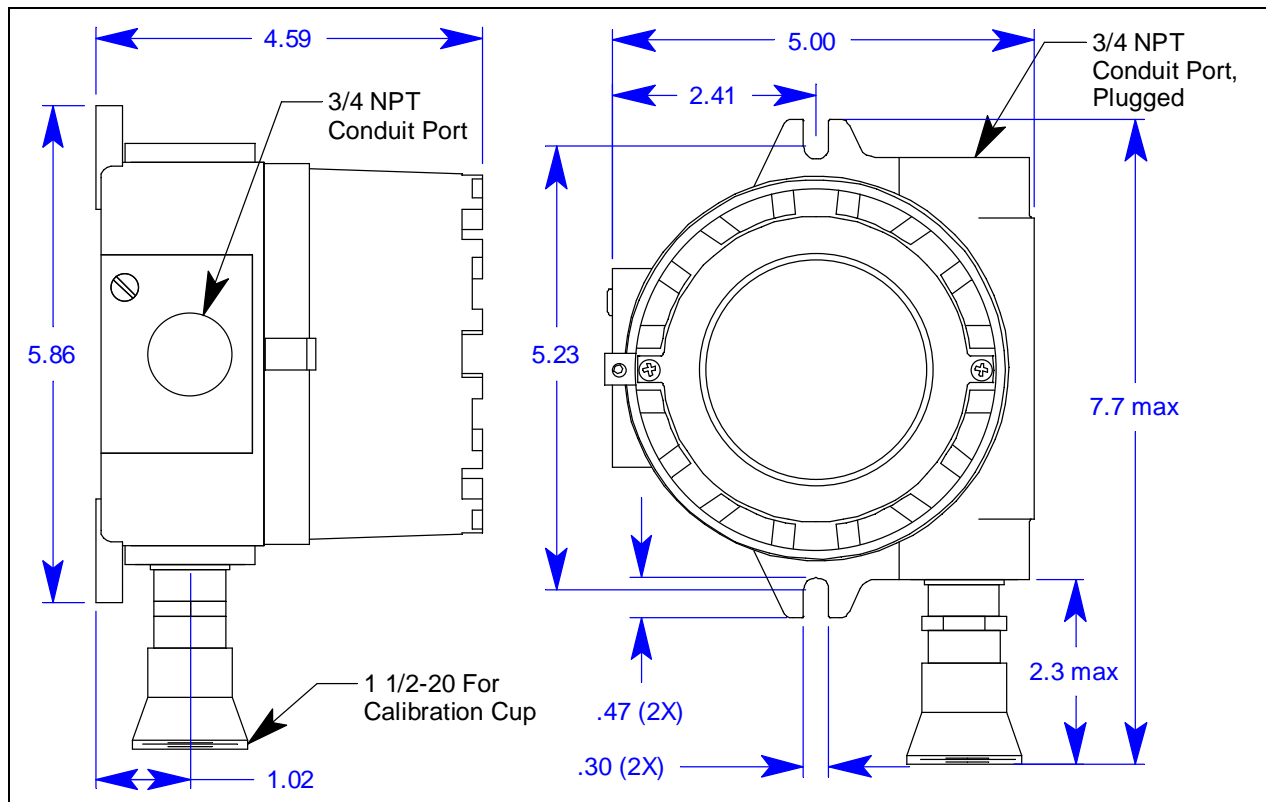
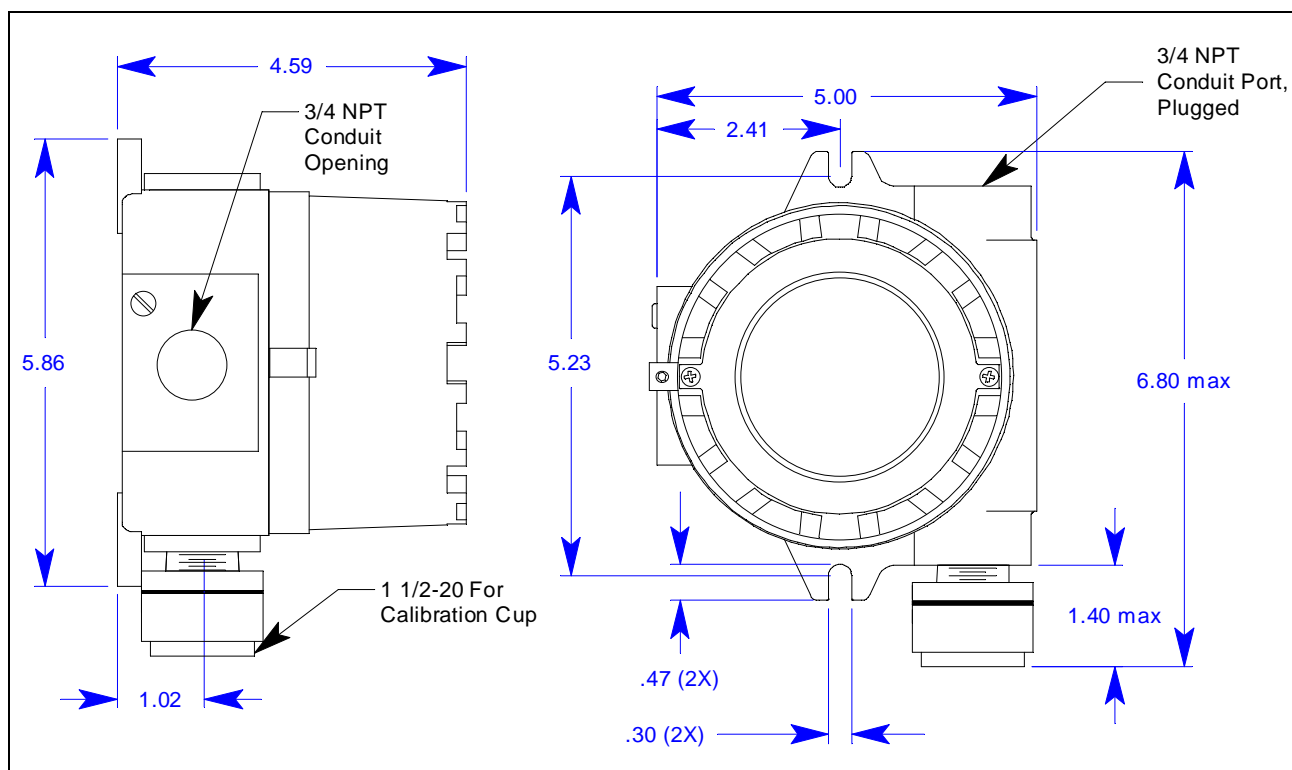

Figure 15: Outline & Mounting Dimensions, Catalytic LEL and ppm, UL Version
Figure 22: Outline & Mounting Dimensions, CT-7 Series
2. At the monitoring site, use #10 screws through the junction box's two mounting holes to secure the junction box to a vertical surface. Figure 15 - Figure 22 show the outline and mounting dimensions for each version of the M2A. Mount the M2A with the detector facing down as shown in the following figures.